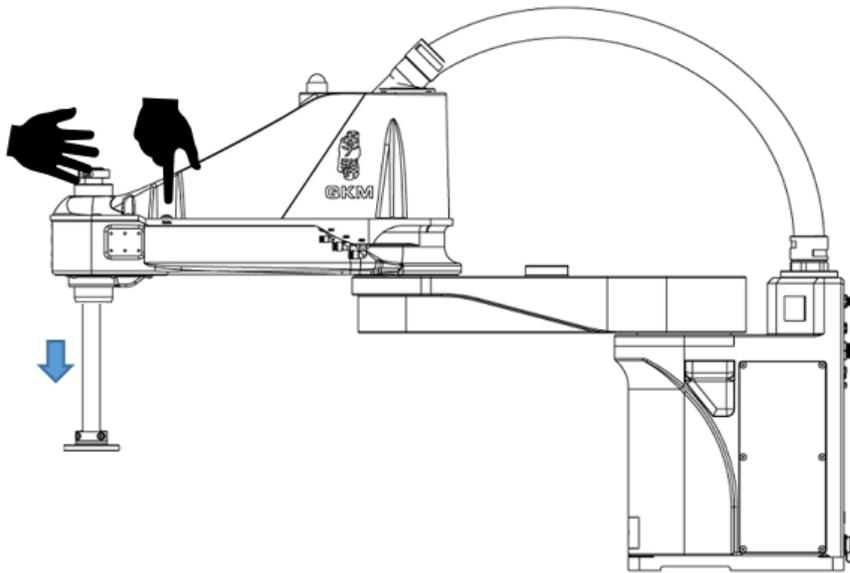

Figure 4-2 Push down the spline screw shaft
Step 1 Confirm that the robot is powered on and in servo-off state. After confirmation, wear disposable gloves and hold the end of the screw, then press the brake button and do not release it until the spline screw shaft is pushed down to the lowest end, as shown in Figure 4-2.